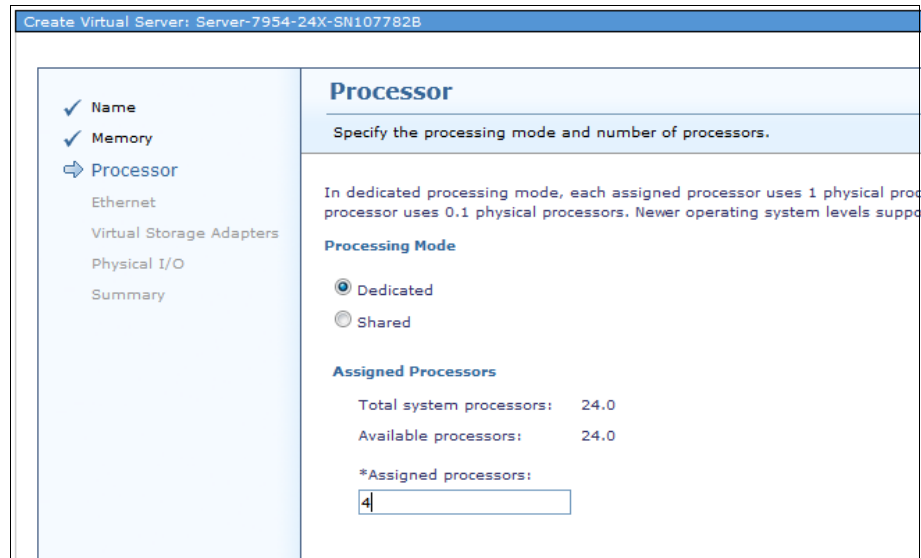

Figure 8-11 Setting the processor characteristics for the VIOS virtual server
2. Click **Next** to proceed to the processor settings. The window that is shown in Figure 8-11 opens.